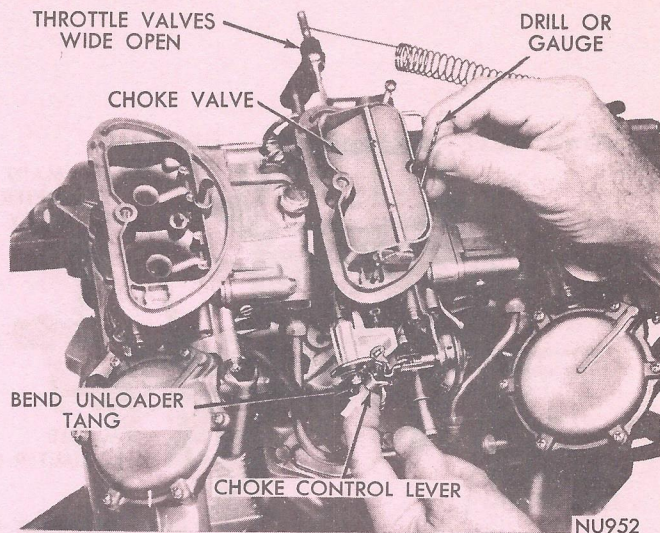

Fig. 26—Choke Unloader Adjustment (wide open Kick)
(3) With a finger lightly pressing against the choke control lever, a slight drag should be felt as the drill is being withdrawn. If an adjustment is necessary, bend the indicated tang until correct opening has been obtained (Fig. 26).